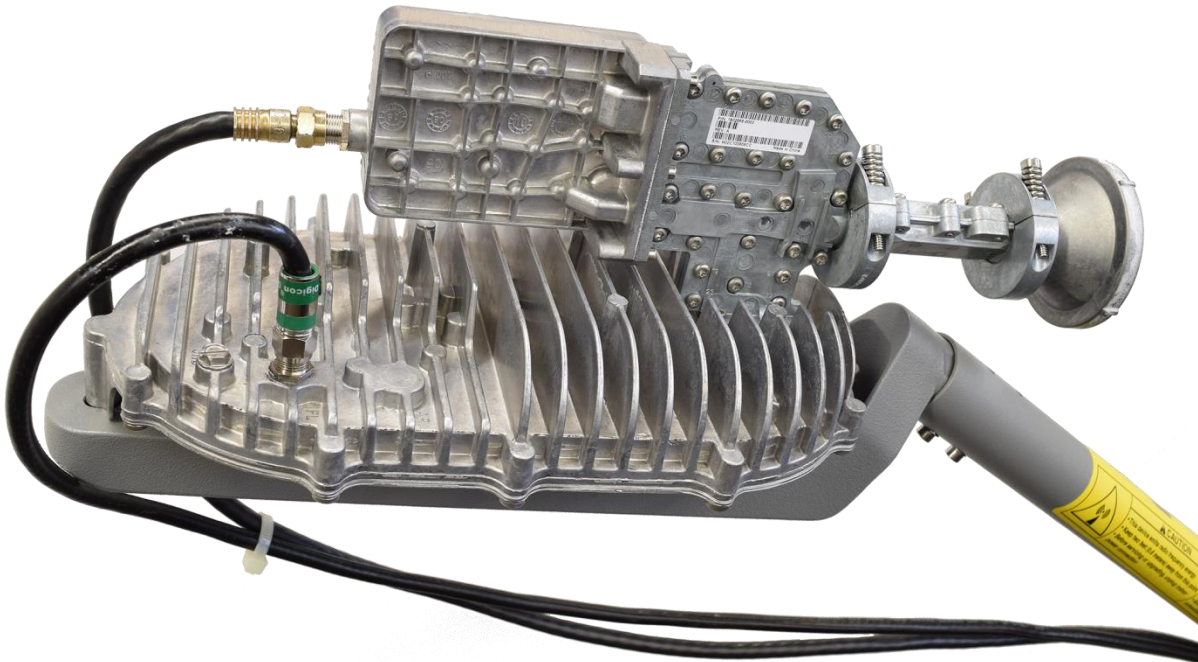

Figure 26: IFL cable connector
3. Connect the IFL cables to the connectors on the radio, as shown in Figure 26.